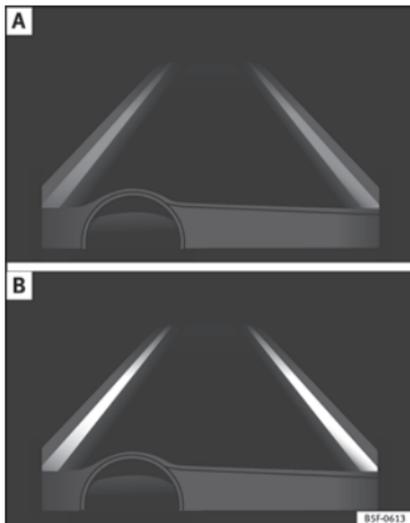

Fig. 162 On the instrument panel display: Indication on the Lane Assist system display (example 1).
- The system is active, but not available, either because the minimum speed has not been reached or because the lane lines are not recognised »» **Fig. 162 A**.
- The system is active and available, both lane lines are recognised. The steering angle is not being corrected at this moment »» **Fig. 162 B**.